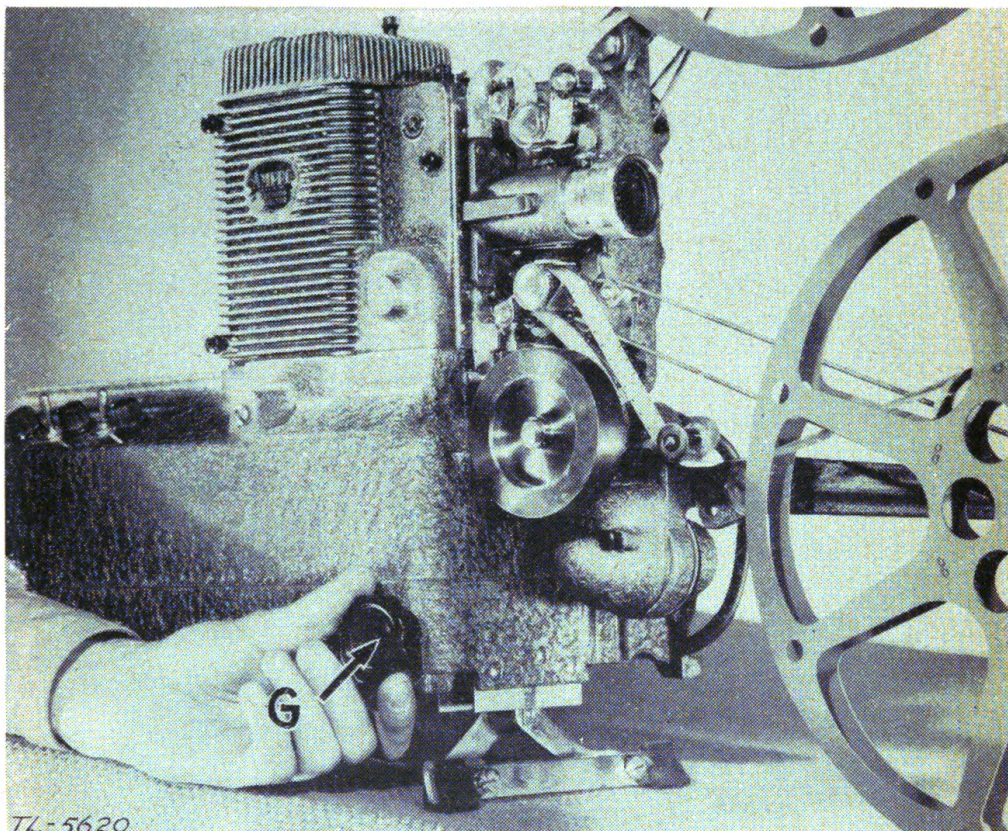

FIGURE 9.—Elevator knob on Ampro YA projector.
c. Turn elevator knob *G* (figs. 9 and 10) on front of base to raise or lower image on the screen. On the front of the R. C. A. model there are two knobs so that the image may be leveled also.